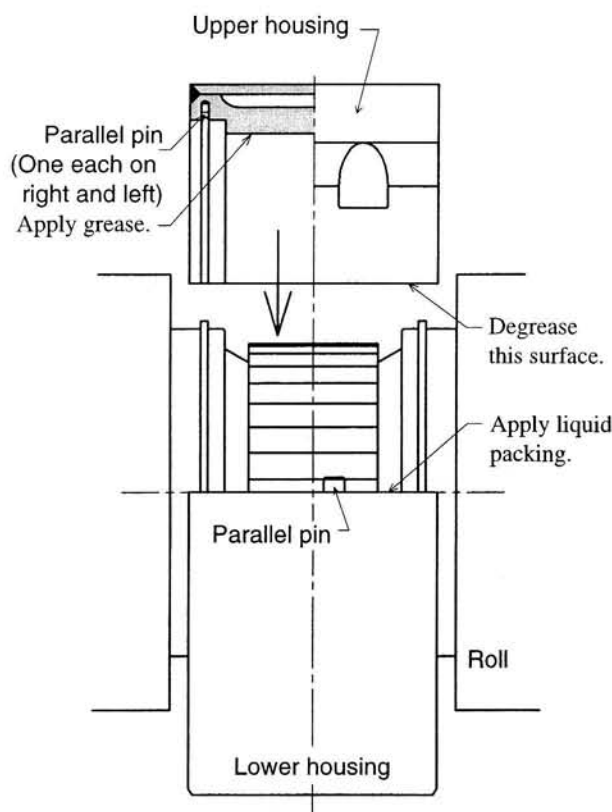

Fig. 22 Installation of Upper Housing
- 5) While paying attention to the installation conditions of the labyrinth ring and oil seal, place the upper housing over the lower housing (see Fig. 22).